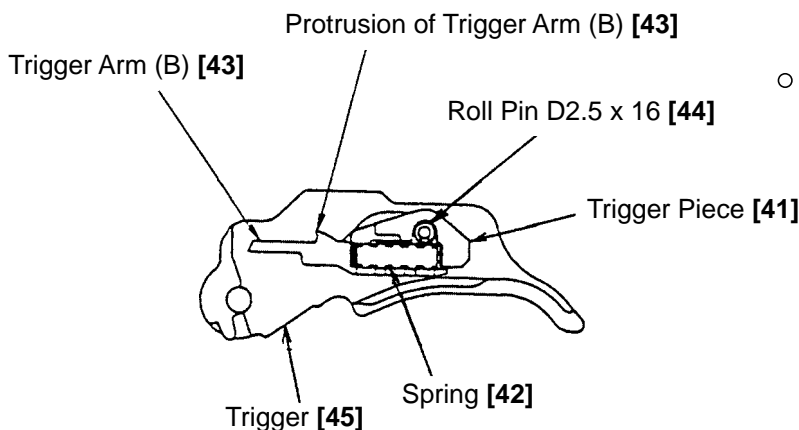

Fig. 21
- After reassembly, check that Plunger (A) [73] moves smoothly.
- Mount Trigger Arm (B) [43] facing its protrusion upward (Fig. 21).